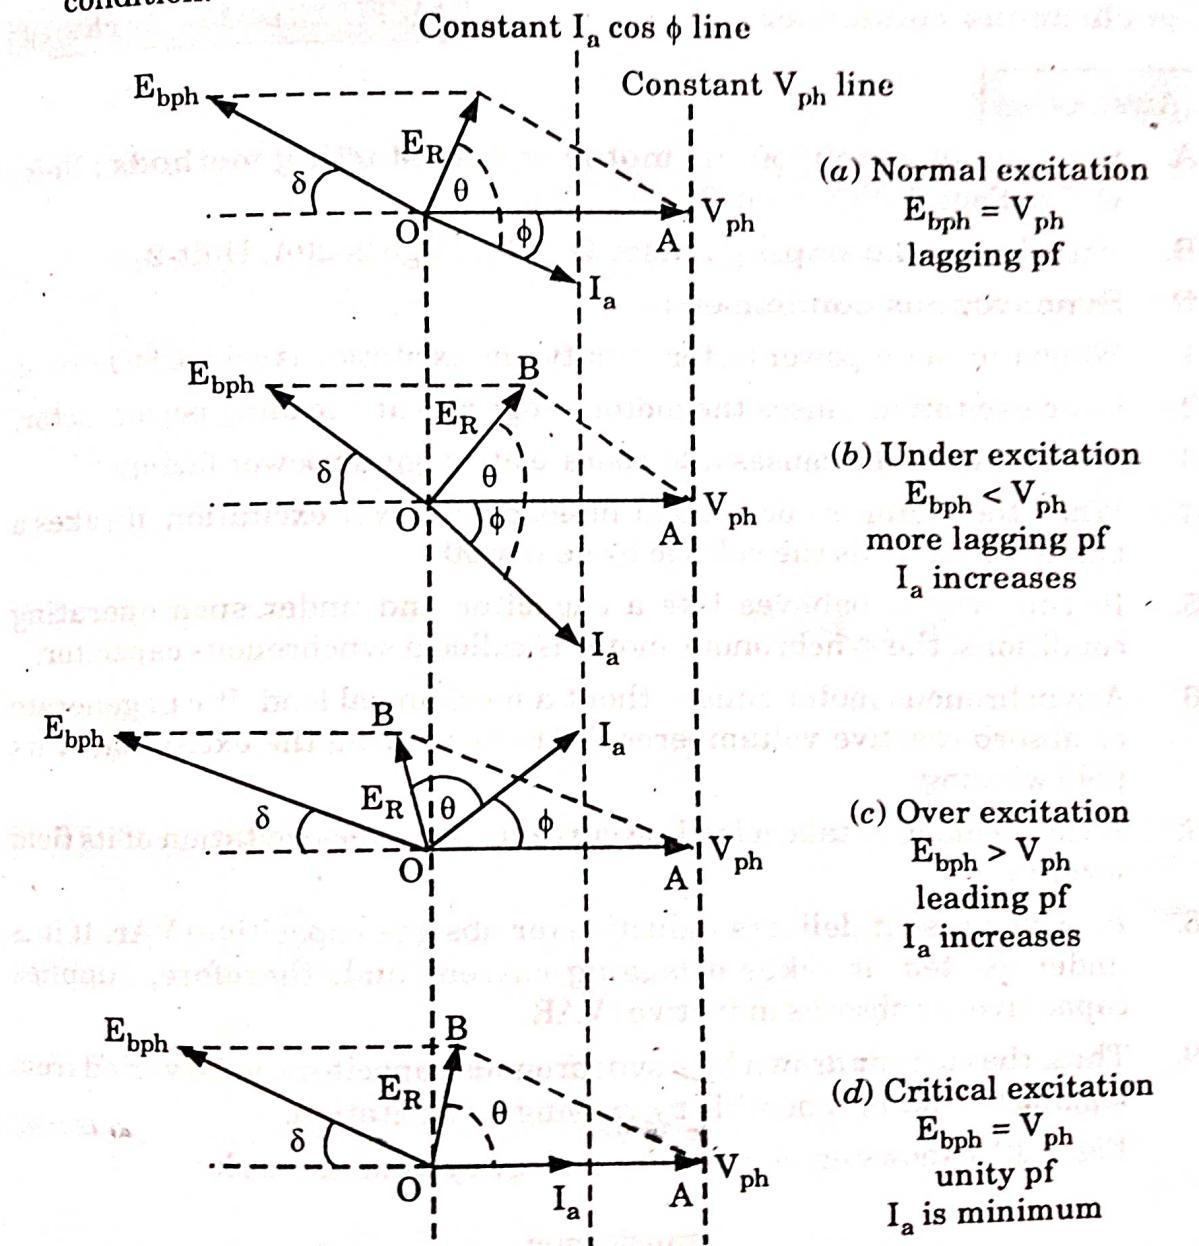

Fig. 2.11.1. Constant load variable excitation operation.
2. Motor is drawing certain current  $I_a$  from the supply. The power factor of the motor is lagging in nature as shown in the Fig. 2.11.1(a).